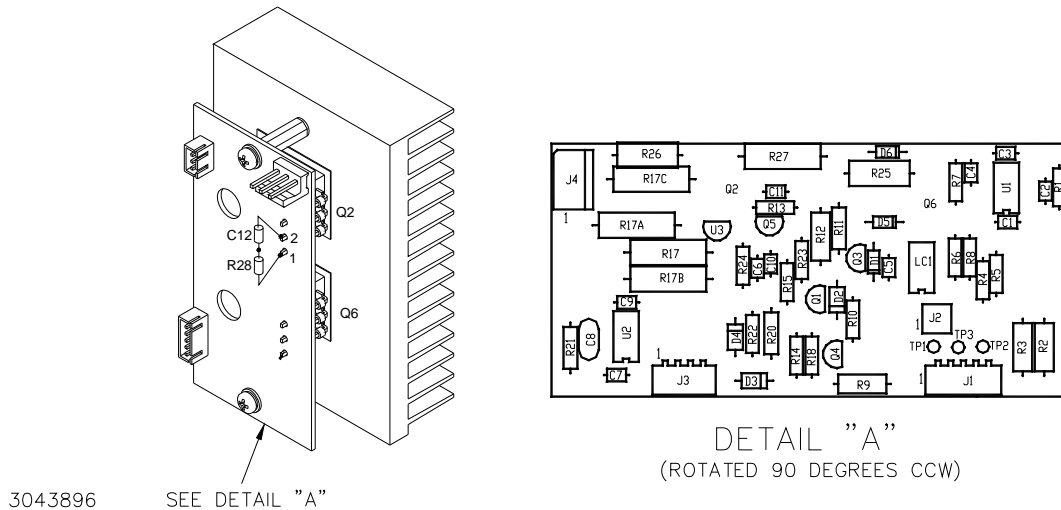
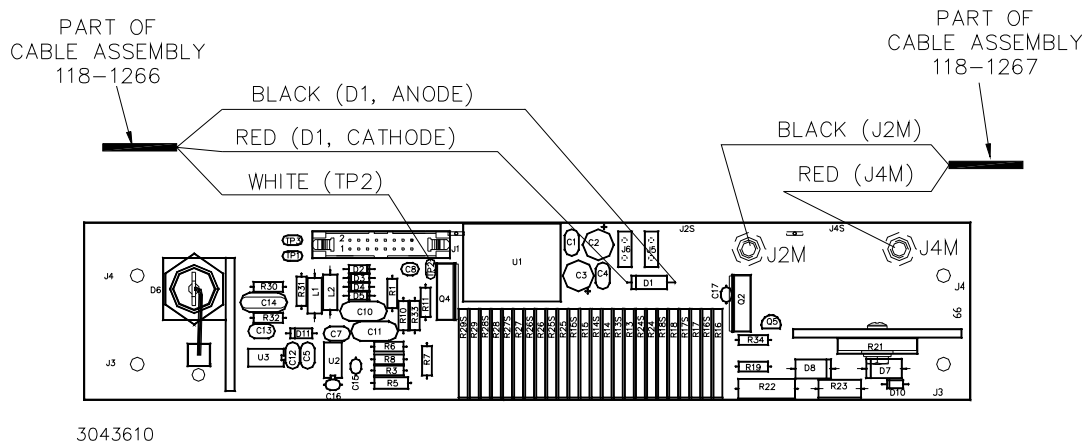
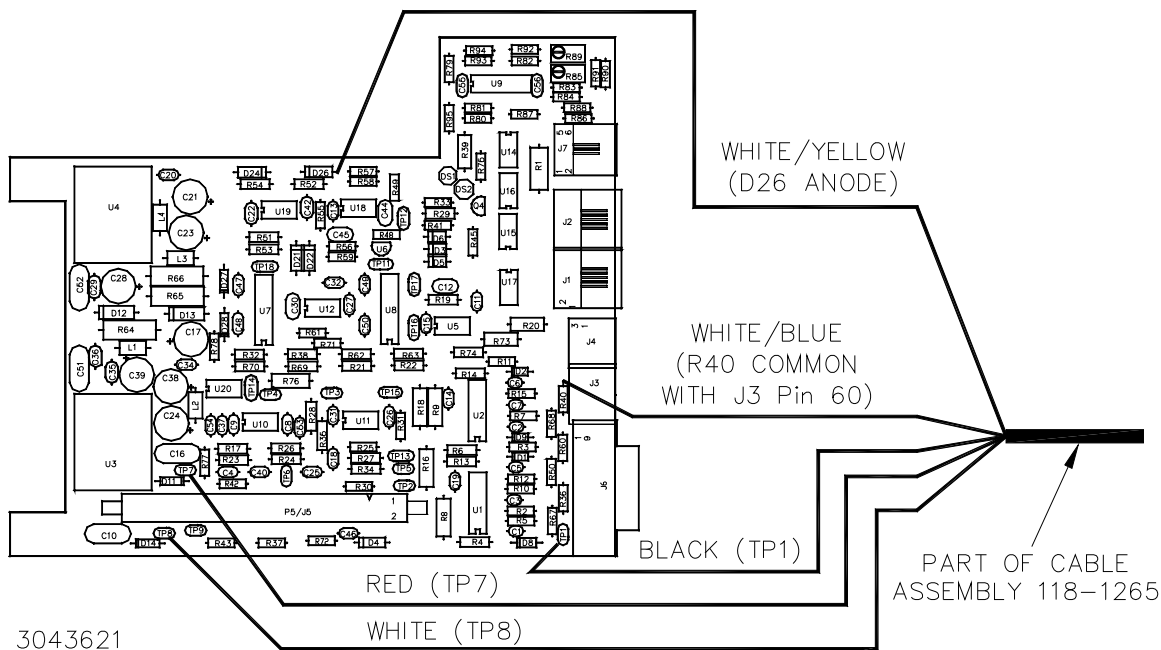

FIGURE 1. TRANSITION CIRCUIT ASSEMBLY, COMPONENT LOCATIONS
FIGURE 3. A4A8 COMPONENT LOCATION/WIRING
FIGURE 4. A2A5 COMPONENT LOCATION
The Transition Circuit Assembly (A7A3) is shipped with Printed Circuit Board (PCB) assembled to the Heatsink with the preload-MOSFET mounted directly on the heatsink (Figure 1).
3. Cable assembly P/N 118-1267 (provided in the Kit) has a 3-pin connector with two wires, each having non-isolated ring lugs. Remove the screws and lockwashers from J4M and J2M on A4A8, then add the wires from the cable assembly to the wires already connected to J4M and J2M as follows (see Figure 2 for the location of A4A8 in the chassis, Figure 3 for location of J4M and J2M and Figure 6 for cable routing):
4. Install the 4-pin cable assembly (P/N 118-1266) on Transition Circuit A7A3J3 of the PCB (see Figure 1). Route the cables as shown by Figure 6. This cable has three (3) unterminated wires. Determine the needed length, cut the wire and remove the insulated sleeving (approximately 0.15"), then solder each wire to the indicated point (see Figure 3 for A4A8 component locations and Figure 6 for cable routing):
5. Install the 5-pin cable assembly (P/N 118-1265) on Transition Circuit A7A3J1 (see Figure 1) of the PCB. Route the cables as shown by Figure 6. This cable assembly has a 5-pin connector with five (5) unterminated wires. Determine the needed length, cut the wire and remove the insulated sleeving (approximately 0.15"), then solder each wire to the indicated point of assembly A2A5 (see Figure 4 for location of wire attachment points and Figure 6 for cable routing):
1. With the unit turned off, connect a DVM (set for DC voltage measurements) to Transition Circuit A7A3R5 (end closest to A7A3J1; see Figure 1), referenced to TP2.